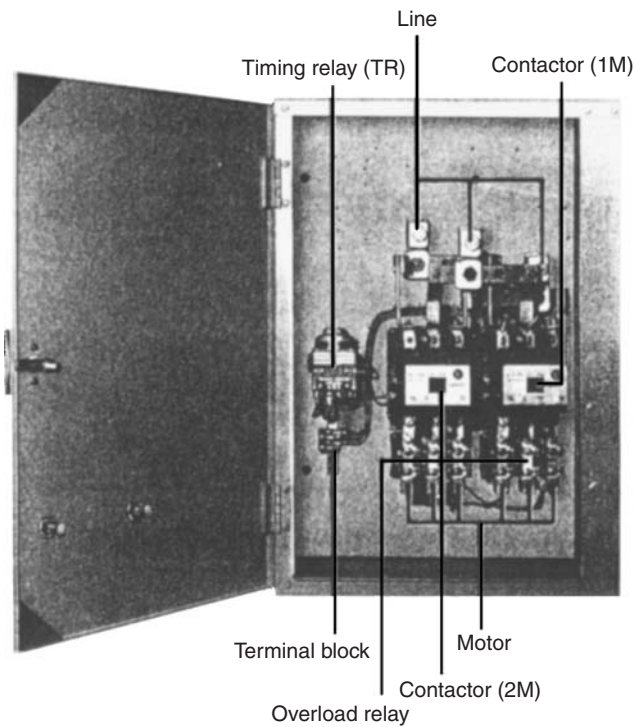
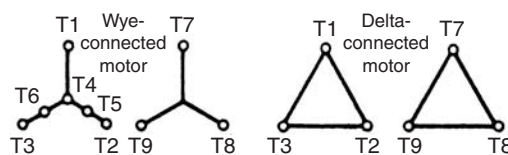

Fig. 5-40 Part-winding type of magnetic starter. (Westinghouse)
Fig. 5-41 Typical wiring diagram for part-winding type of starter. (Westinghouse)
Operation The part-winding type of starter is shown in Fig. 5-40. The parts are located for ease in understanding the operation. By taking a look at the schematic in Fig. 5-41 you can see how the starter operates. Closing the START button or other pilot device energizes the start contactor (1M) that seals in through its interlock (1M_a) and energizes the timer (TR). The (1M) contacts connect the first half-winding of the motor across the line. After a preset time interval, timer (TR_{TC}) contacts close the energizing contactor (2M). The (2M) contacts connect the second half-winding of the motor across-the-line.